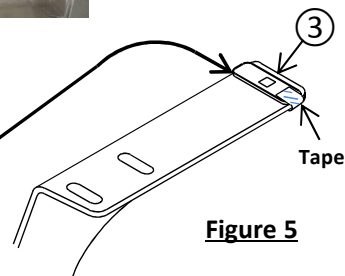

**Figure 2**
- Lower muffler** – Using an exhaust hanger removal tool or pry bar, lower muffler by removing (3) to (5) rubber hangers (varies by model year). A spray a lubricant or soapy water on rubber hangers makes them slide off metal pins more easily. **NOTE: Using a ratchet strap or bungee cord, be sure that exhaust is supported before removing rubber hangers.**
- Remove heat shield** – Using a 10mm socket, remove (4) screws holding heat shield(s) to vehicle. **NOTE: Shield will be trimmed and replaced prior to installing hitch.**
- Remove rubber plugs** - using a flat screw driver, remove (3) rubber plugs from the (3) forward holes in the bottom of the frame. Do not remove the rearmost rubber plug.
- Trim heat shield** – Using metal shears, trim the heat shield as shown. **See figure 2.**
- Reinstall heat shield** – Reinstall heat shield using (3) of the screws removed in step 2.